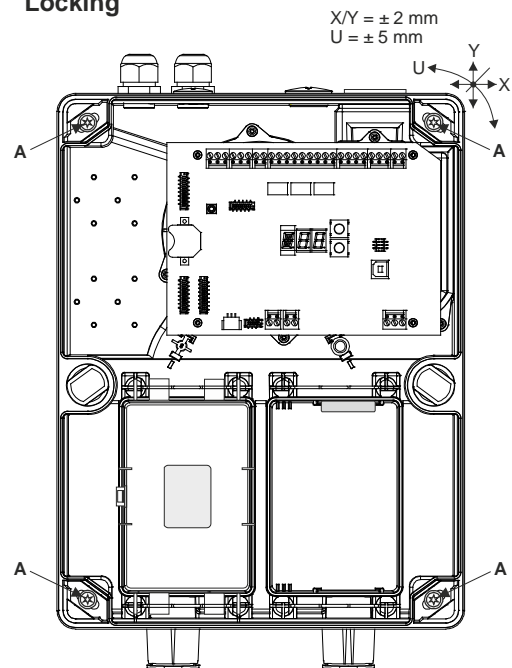

Fig. 15 Open, closing and securing the detector housing
- To actuate the **rotary snap locks**, **press** them **firmly** with the screwdriver towards the housing base and then **turn** through 90°. The position of the lock slit shows the current status (see **Fig. 15**):